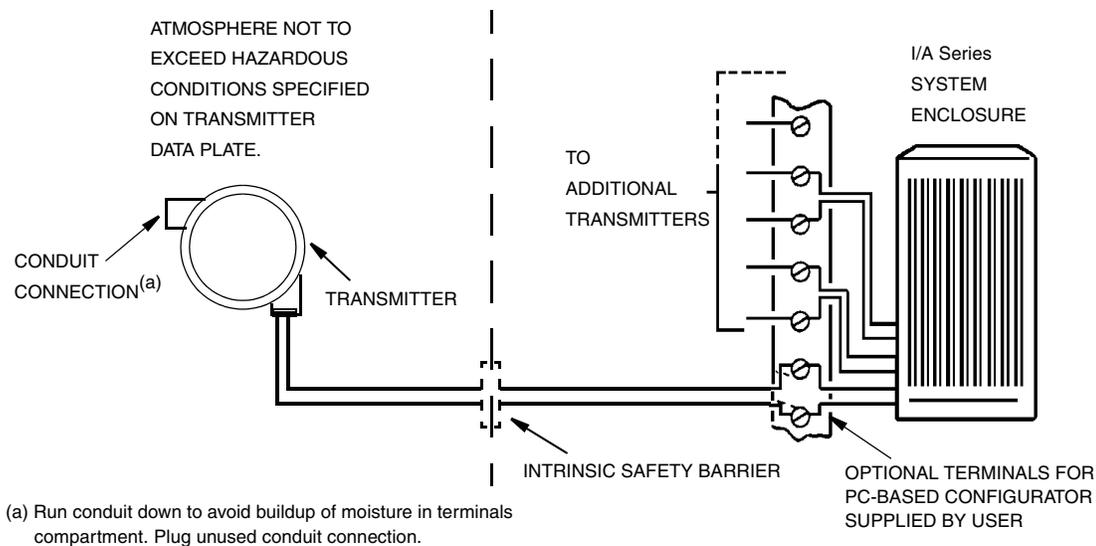

Figure 13. Typical Transmitter Wiring to an I/A Series System
2. Run signal wires ($0.50\ \text{mm}^2$ or 20 AWG, typical) through one of the transmitter conduit connections as shown in Figure 13. Use twisted pair to protect the digital output and/or remote communications from electrical noise. Screened (shielded) cable may be required in some locations.